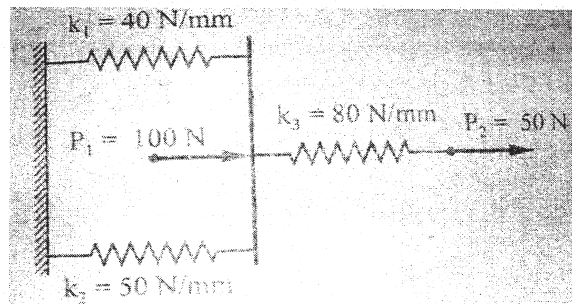

Fig. 2b
b) A system of spring as shown in fig 2b. Using Finite element method, determine [8]